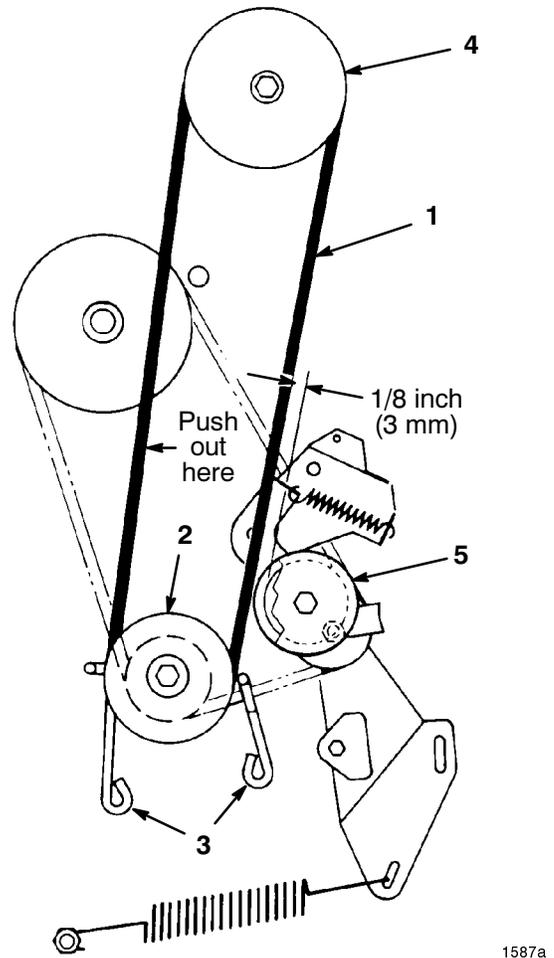

Figure 19
7. Loosen the capscrews securing (2) engine pulley belt guides and move guides away from pulley. Remove the deck drive belt from engine pulley (Fig. 19).
9. Remove (2) screws securing belt guide to mower housing and remove belt guide. Remove belt from pulley.
12. Pushing out on belt (removing slack), as shown in Figure 19, check clearance between outside of belt and inside of idler pulley (Fig. 19). Clearance should be approximately 1/8 inch (3 mm).